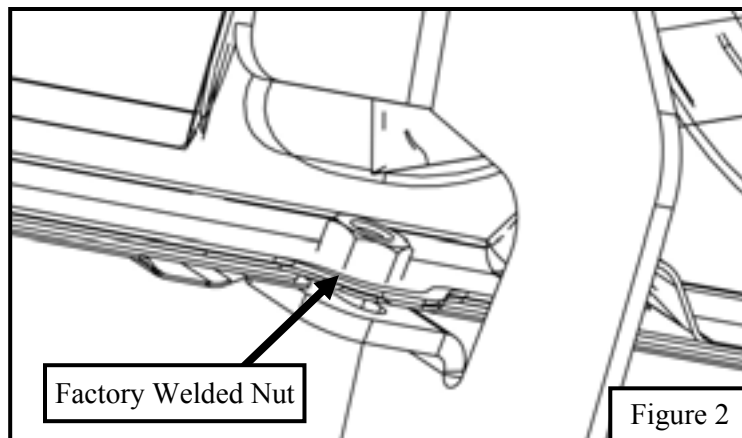

Figure 2
3. **For 1500 Crew Cab models with welded nut:** At each bracket mounting location on the pinch weld there should either be a welded factory nut or a hole. If there is a factory welded nut present then the M8 U-Nut Clip (Item 7) will not be used at that location. See **Figure 2** for the factory welded nut.